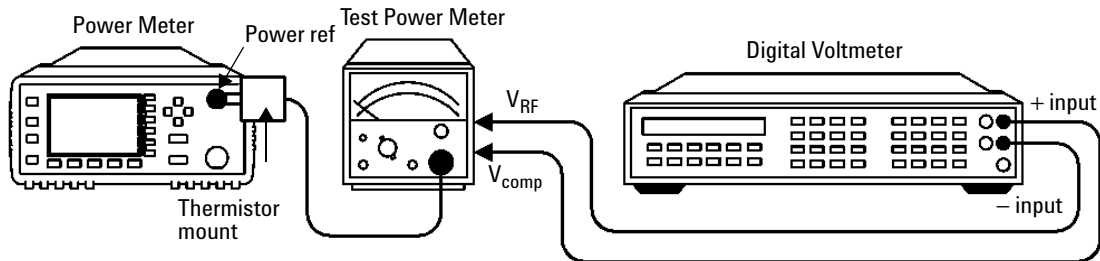

Figure 2-6 Power Reference Level Test Setup
- 2 Round off the DVM reading to two decimal places and note this value as the internal bridge resistance (R) of the Agilent 432A (approximately 200  $\Omega$ ).
- 3 Connect the equipment as shown in Figure 2-6, ensuring that the DVM input leads are isolated from chassis ground.